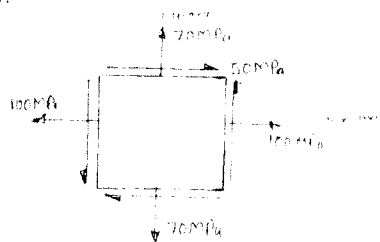

Fig. Q3 (b)
- b. The state of stress in a two dimensional stressed body as shown in Fig. Q3 (b). Determine the principal planes, principal stress, maximum shear stress and their planes, by using Mohr's circle method. (08 Marks)